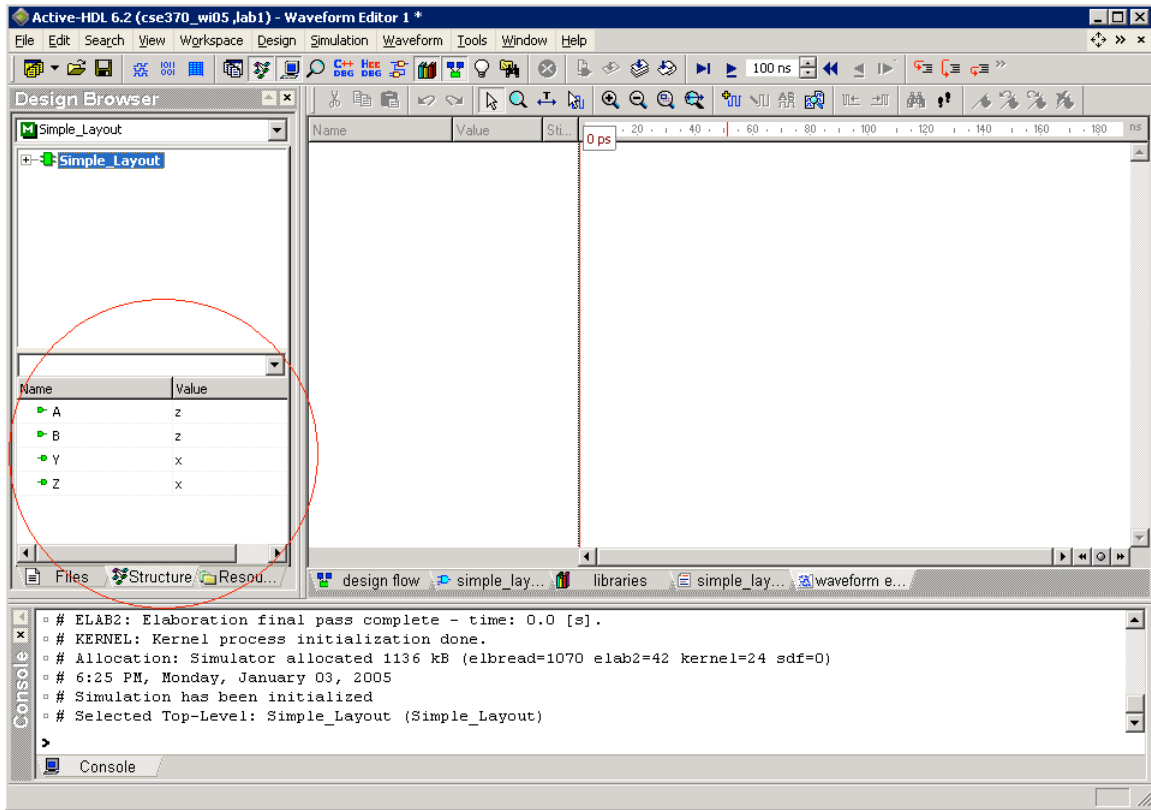

Figure 26
- Click the file name in the top window in the Design Browser under the Structures tab. Notice in Figure 26 how the signals and wires (Nets) appear in the bottom window of the Design Browser.